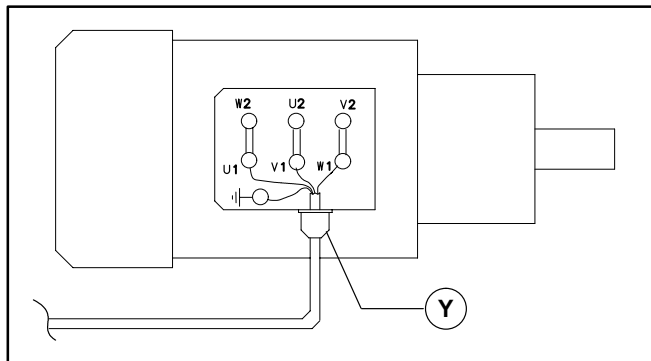

Figure 16
- b. Record wire colors on terminals U1, V1, W1 and ground (\perp) (Figure 16). Loosen terminals U1, V1, W1 and ground and remove wires.
- c. Loosen cord grip (Y of Figure 16) and remove cord.